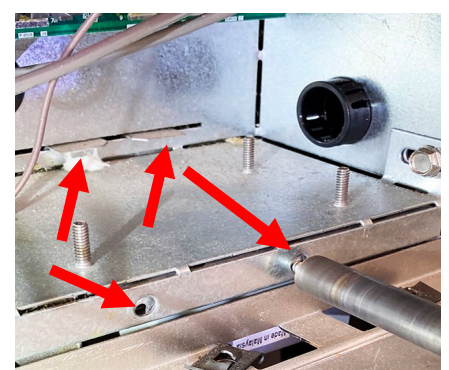

Figure 63
64. Slide the module bracket through the slots on the rear of the component box (see Figure 63). Attach the module bracket with the two (2) small drill screws **WITHOUT POINTS**.